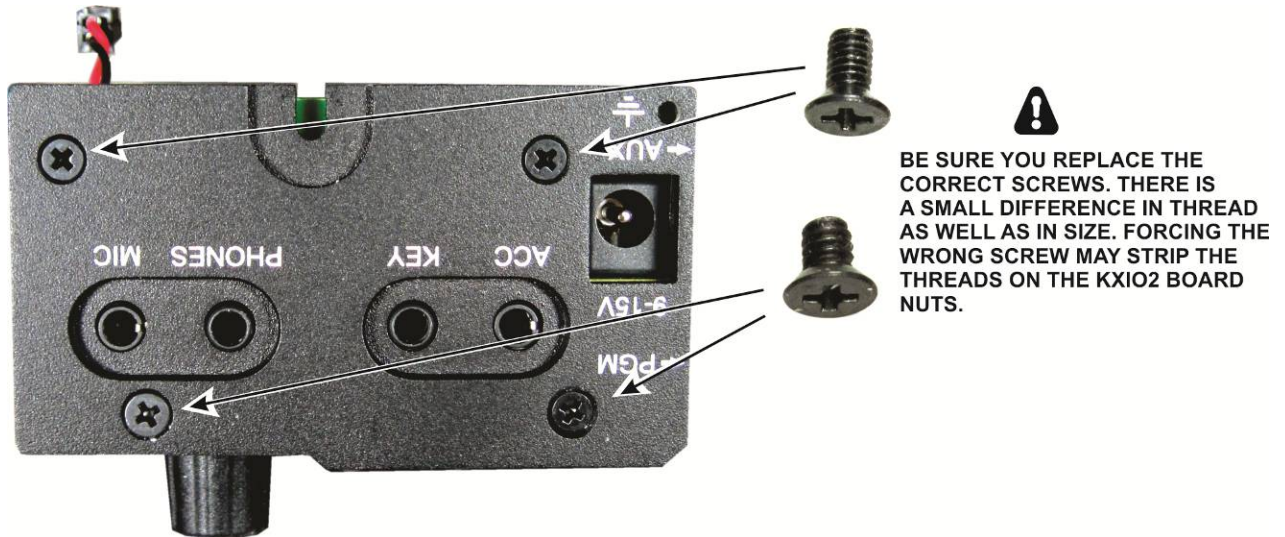

Figure 6. Replacing the End Plate.
- Replace the end plate as shown in Figure 6. Be sure to use the correct screws in each location.